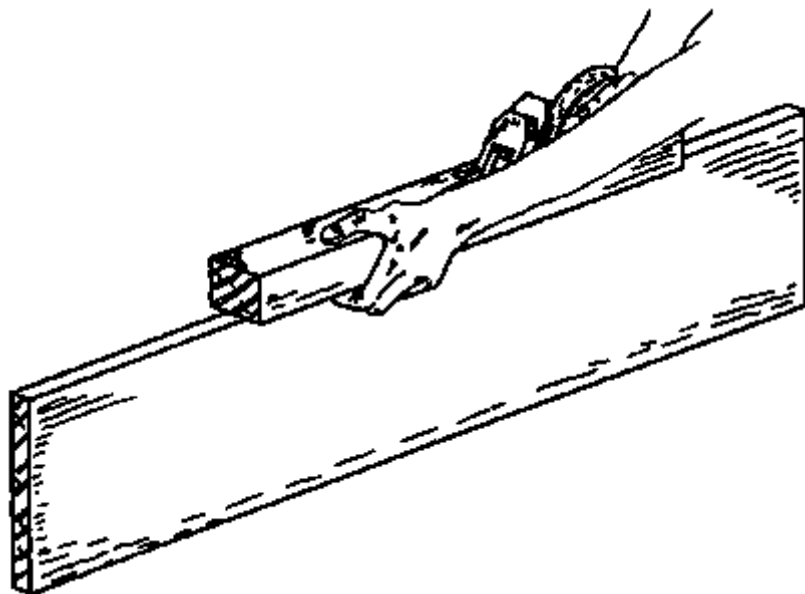

Fig. 3
- Guide the plane when you plane on edges, by curling your fingers under the plane so that they contact the board (Fig. 3).